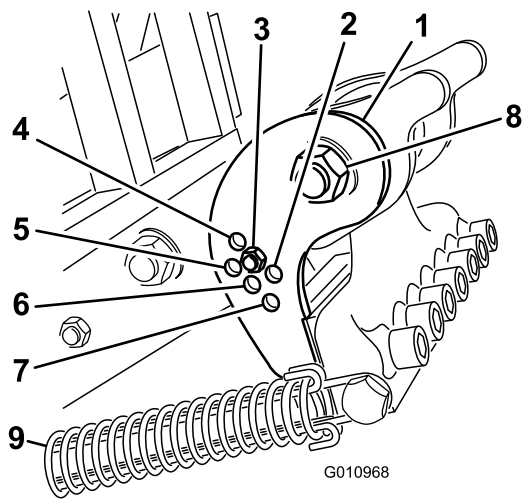

Figure 27
Set the camber bracket (Figure 27) to the correct position based on the length of tines to be used. The head stop is set to one of five predetermined positions by choosing the hole through which the adjustment rod is bolted. These holes are presets only; for instance, by using a 10 inch tine in the 12 inch position you may achieve a smoother finish; depending on the application.
3. Release the spring tension to the tine head (Figure 27).
4. Remove the nut and bolt in the adjustment holes in the camber bracket (Figure 27).
- Loosen the tine head pivot bolt (Figure 27).